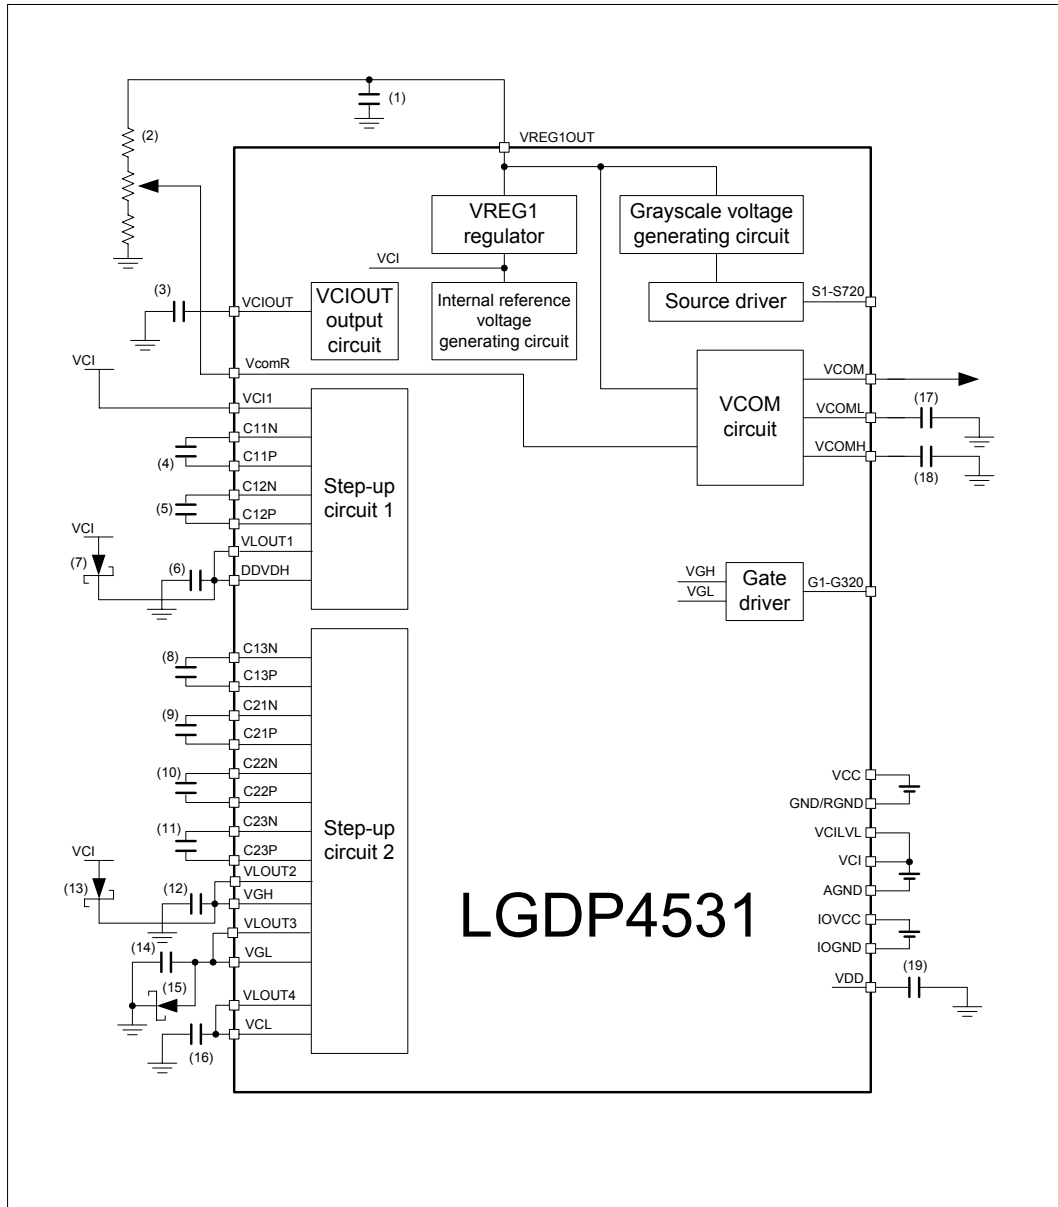

Figure 73
2. The numbers in the parentheses corresponds to the numbers of the elements in Figure 72, Figure 73.